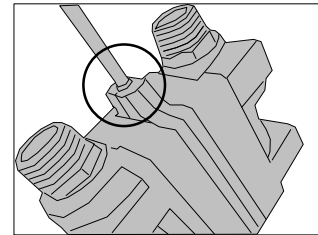

FIG. 3
1. Unscrew the front nut (1) and insert the cable (4) through the slot cable support bracket. See pedal instructions for more details and exact slot location. The rear nut (3) remains at the end of the thread (2). Adjust cable holder (2) for proper pedal operation and secure it's position with nuts (1) and (3). Use 3/32 wrench for tightening nuts (M5x0.8mm).
2. Verify that the actuating cable is inside the valve recepticle; see Fig.3
3. Insert cable end T-bar (5) into the pedal lever (see instruction for pedal)
Verify that valve actuating cable is inside the valve receptacle. (FIG.3)